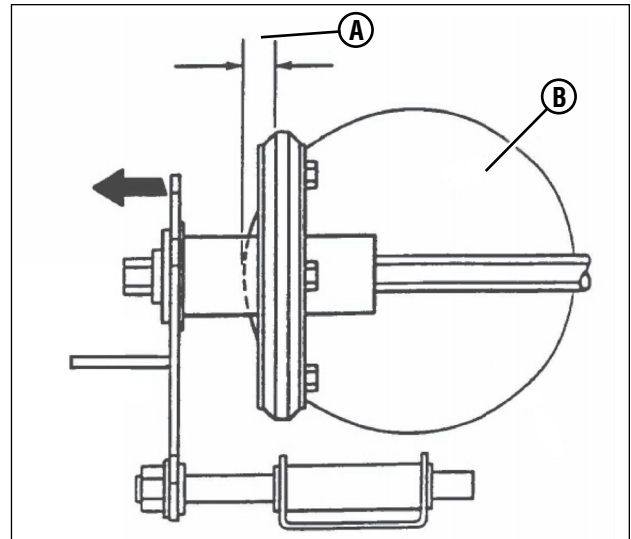

Figure 29: Proper driven disc adjustment
3. Slide the driven disc assembly over to 1/8" (A, Figure 29) from the outside edge of the drive disc (B).